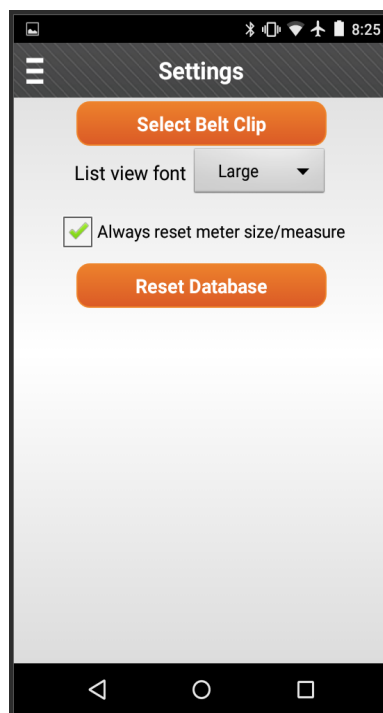

Figure 7 NGO Settings
- 2 Select **Settings** from the NGO menu. The **Settings** screen displays. See Figure 7.